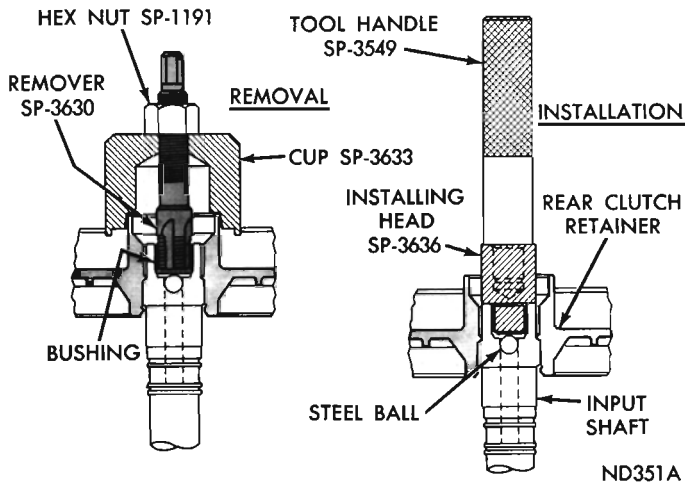

Fig. 82—Replacing Input Shaft Bushing (A-727)
(1) Clamp input shaft in a vise with soft jaws, being careful not to clamp on seal ring lands or bearing journals.
(2) Assemble remover Tool SP-3630, cup Tool SP-3633, and hex nut Tool SP-1191 (Fig. 82).
(3) With cup held firmly against clutch piston retainer, thread remover into bushing as far as possible by hand.
(4) Using a wrench, screw remover into bushing 3 to 4 additional turns to firmly engage threads in the bushing.
(5) Turn hex nut down against cup to pull bushing from input shaft.
(6) Thoroughly clean input shaft to remove chips made by remover threads. Make certain small lubrica-
(7) Slide a new bushing on installing head Tool SP-3636, and start them in the bore of input shaft.
(8) Stand input shaft upright on a clean smooth surface and install handle Tool SP-3549 in the installing head (Fig. 82). Drive bushing into shaft until tool bottoms.
(9) Thoroughly clean input shaft and clutch piston retainer before assembly and installation.